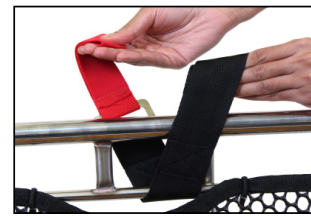

Figure 7, Passing Looped End Through Cove
2. Starting outside the rescue litter, pass the looped end of the strap inward between the rescue litter rail and the netting at a chosen attachment point. (Fig. 7)